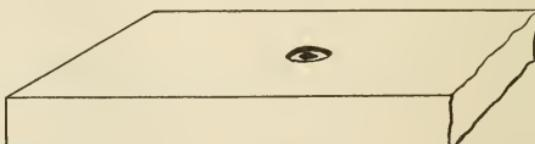

FIG. 117.—HOLE FOR BENCH SCREW.
9. Boring the screw hole.—The screw is $1\frac{1}{8}$ " in diameter and has a cast iron washer near the handle. This washer is to be let into the wood until the surface is flush with the surface of the jaw, so it will be necessary to bore a hole the size of the washer, and to a depth equal to the thickness of the washer before boring the hole for the screw. If the small hole were bored first, there would be no wood to hold the screw and guide the bit. (See Fig. 117.) Because of